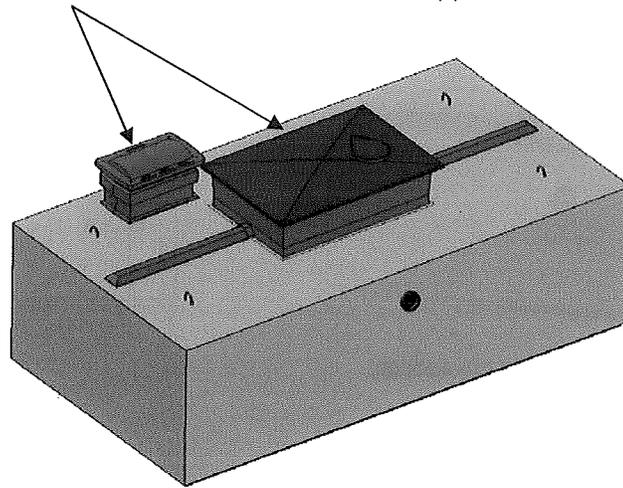

Figure 25
2.11 Secure the two access lids with bolts and washers supplied for as shown on Figure 25.